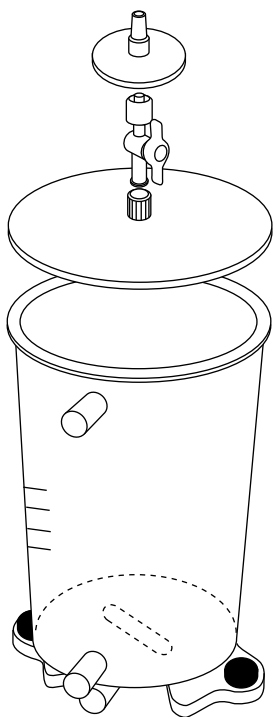

Figure 16: Tank Assembly Overview
2. Grasp the system by the top and tilt to gain access to the adjustable feet (see Fig 16).
3. Loosen the top jam nut with a 13 mm box wrench (see Fig. 16). Adjust bottom nut with a 14 mm box wrench to the desired height. Gently lower base unit down and re-check the level. Repeat the adjustment procedure for each foot necessary until the Cogent®  $\mu$ Scale TFF System is level.